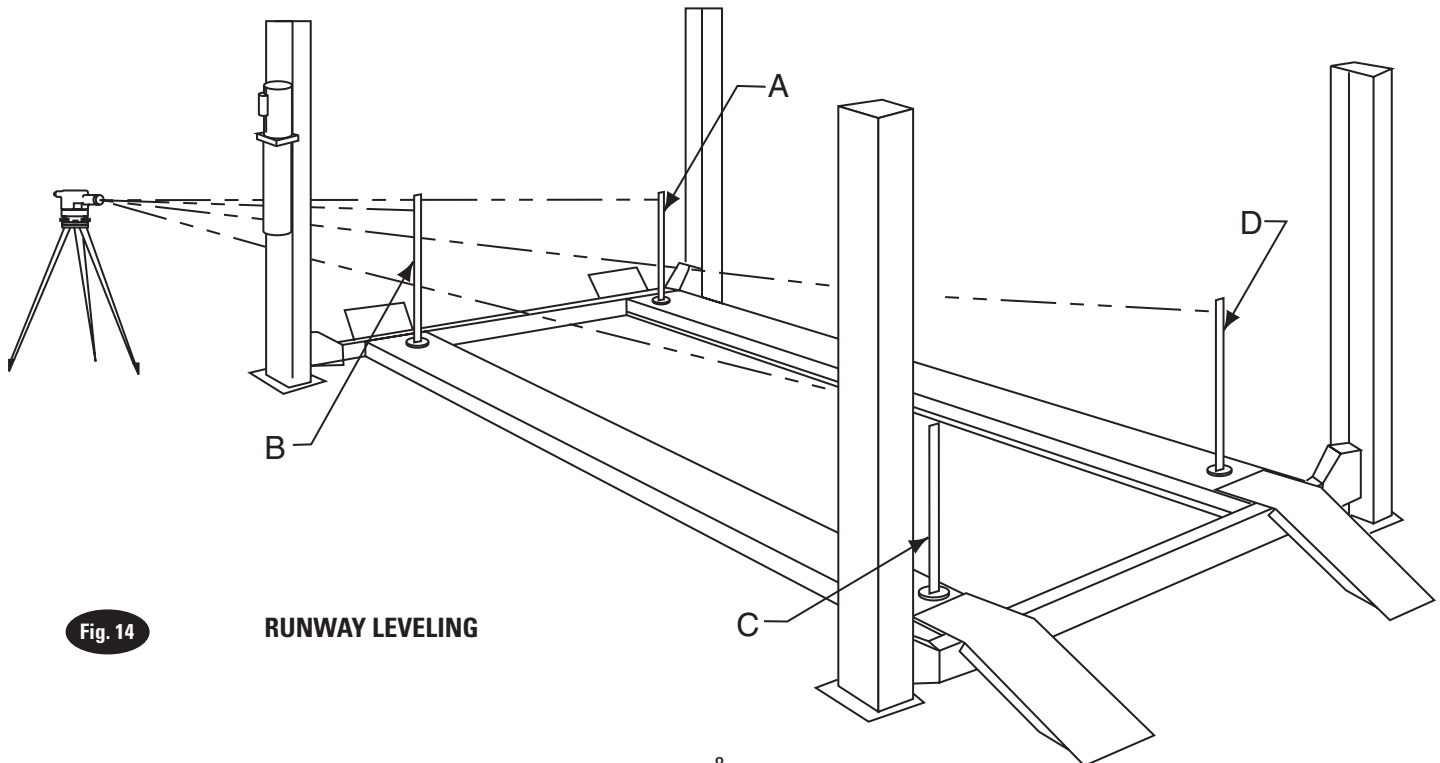

Fig. 14 RUNWAY LEVELING
- C. First place the Level target at the highest corner of the lift. Place it on the runway center line within 6" of yoke tube, whichever one is located over highest point. This will be referred to as target "A" position. Beginning with target "A" position, Fig. 14, sight the Level to the target and mark the number or the graduation on the inch scale of the target that
- D. Next, move the target and place it on the runway at point "B", Fig. 14. Rotate the Level and focus on the target scale. Adjust the column at "B" using shims under base plate, Fig. 13, until